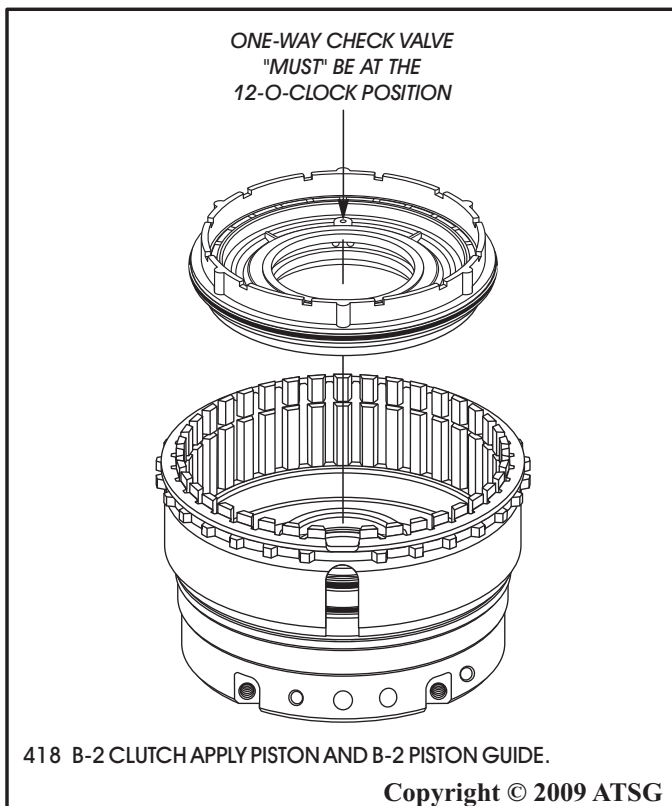

Figure 160
18. Install the B-2 apply piston with B-2 piston guide installed, as shown in Figure 160.
Note: 1-way check valve must be installed "exactly" at the 12-O'clock position and is shown in Figure 160.